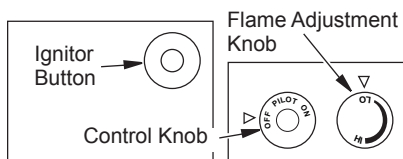

Figure 39 - Control Knob and Ignitor Button Location
5. Wait five (5) minutes to clear out any gas. Then smell for gas, including near the floor. If you smell gas, STOP! Follow "B" in the safety information, column 1. If you don't smell gas, go to the next step.
6. Press in and turn control knob counter-clockwise  to the PILOT position. Press in control knob for five (5) seconds (see Figure 39, page 22).